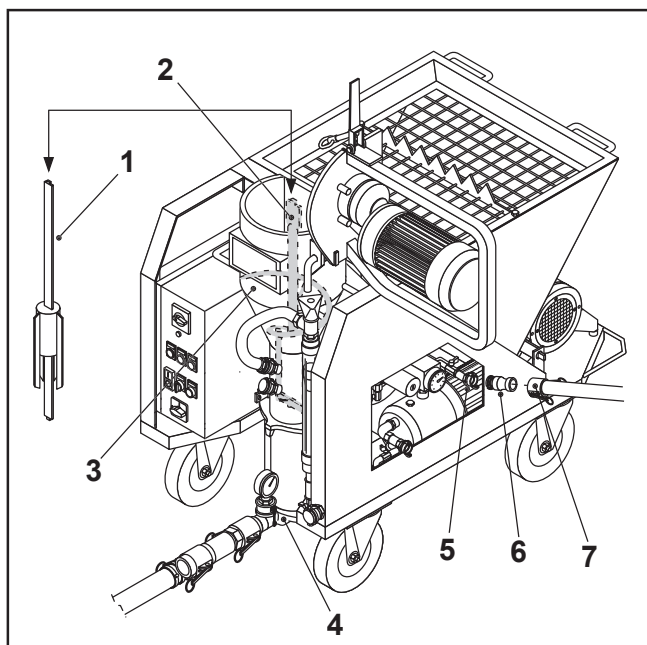
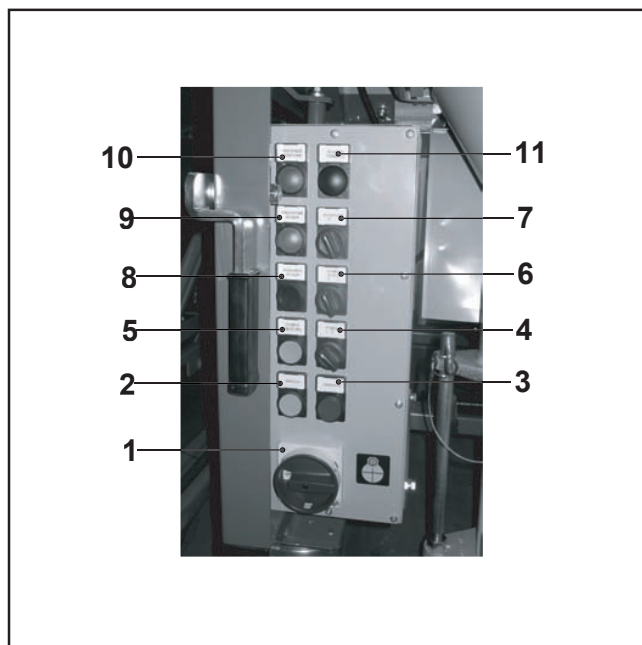

FIG.30
FIG.31
- Disconnect the power from the machine by putting the main disconnecting switch (FIG.31-REF.1) on OFF.
- Open the mixing unit (FIG.30-REF.3).
- Remove the mixer (FIG.30-REF.2) and wash it.
- Insert the scraper (FIG.30-REF.1) in place of the mixer, close the mixing unit and, with the dispenser still stopped, start the material pump by pressing the button (FIG.31-REF.2) until clean water comes out.
- Remove the scraper (FIG.30-REF.1) and clean inside the mixing unit (FIG.30-REF.3) with a cloth.
- Put the main disconnecting switch (FIG.31-REF.1) on OFF.
- Disengage the water pump with the switch (FIG.31-REF.6).
- Start the machine for a couple of minutes by pressing the water supplement button (FIG.31-REF.8) until water can no longer be seen in the flow meter.